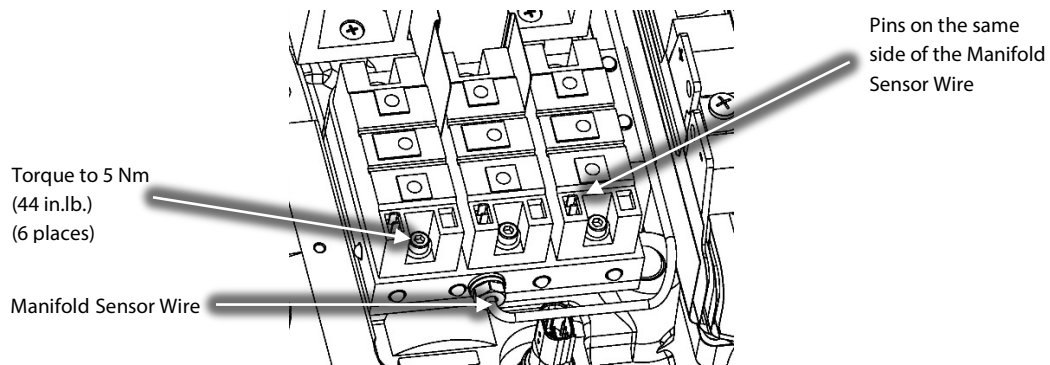

Figure 6 – SCR Orientation
3. Install the diodes on the SCR Cooling Manifold. The diode pins should be on the same side of the Manifold sensor wire. Refer to Figure 6 (SCR Orientation).
4. Secure the diodes on the Manifold Assembly using six (6) screws, and six (6) lock washers. Torque the screws to 6 Nm (53 in.lb). Refer to Figure 6 (SCR Orientation).